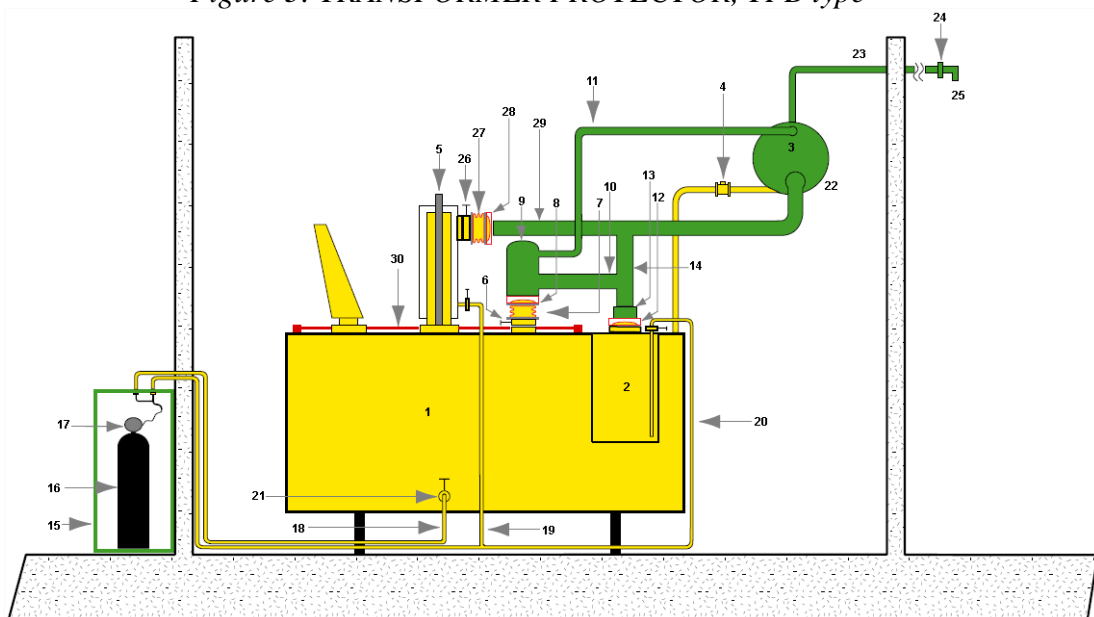

Figure 4: TRANSFORMER PROTECTOR, TPAB type
- **TPAB type**, Figure 4, is suitable for transformers from 0.1 MVA up to 1,000 MVA and above, located either indoors or outdoors. In this type, the transformer, OLTC, and OCB Depressurization Sets (items 6-9, 12-13 and 26-28) will allow the depressurization in case of an internal fault. The depressurized oil and gas mixture is routed to an Oil-Gas Separation Tank (item 22). The gases are expelled through the Explosive Gas Evacuation Pipe (item 23), outside the building or to a remote area where gases can burn safely. An Air Isolation Shutter (item 24) is installed at the end of the Explosive Gas Evacuation Pipe (item 23) to avoid air from entering into the Oil-Gas Separation Tank (item 22) or the transformer tank.